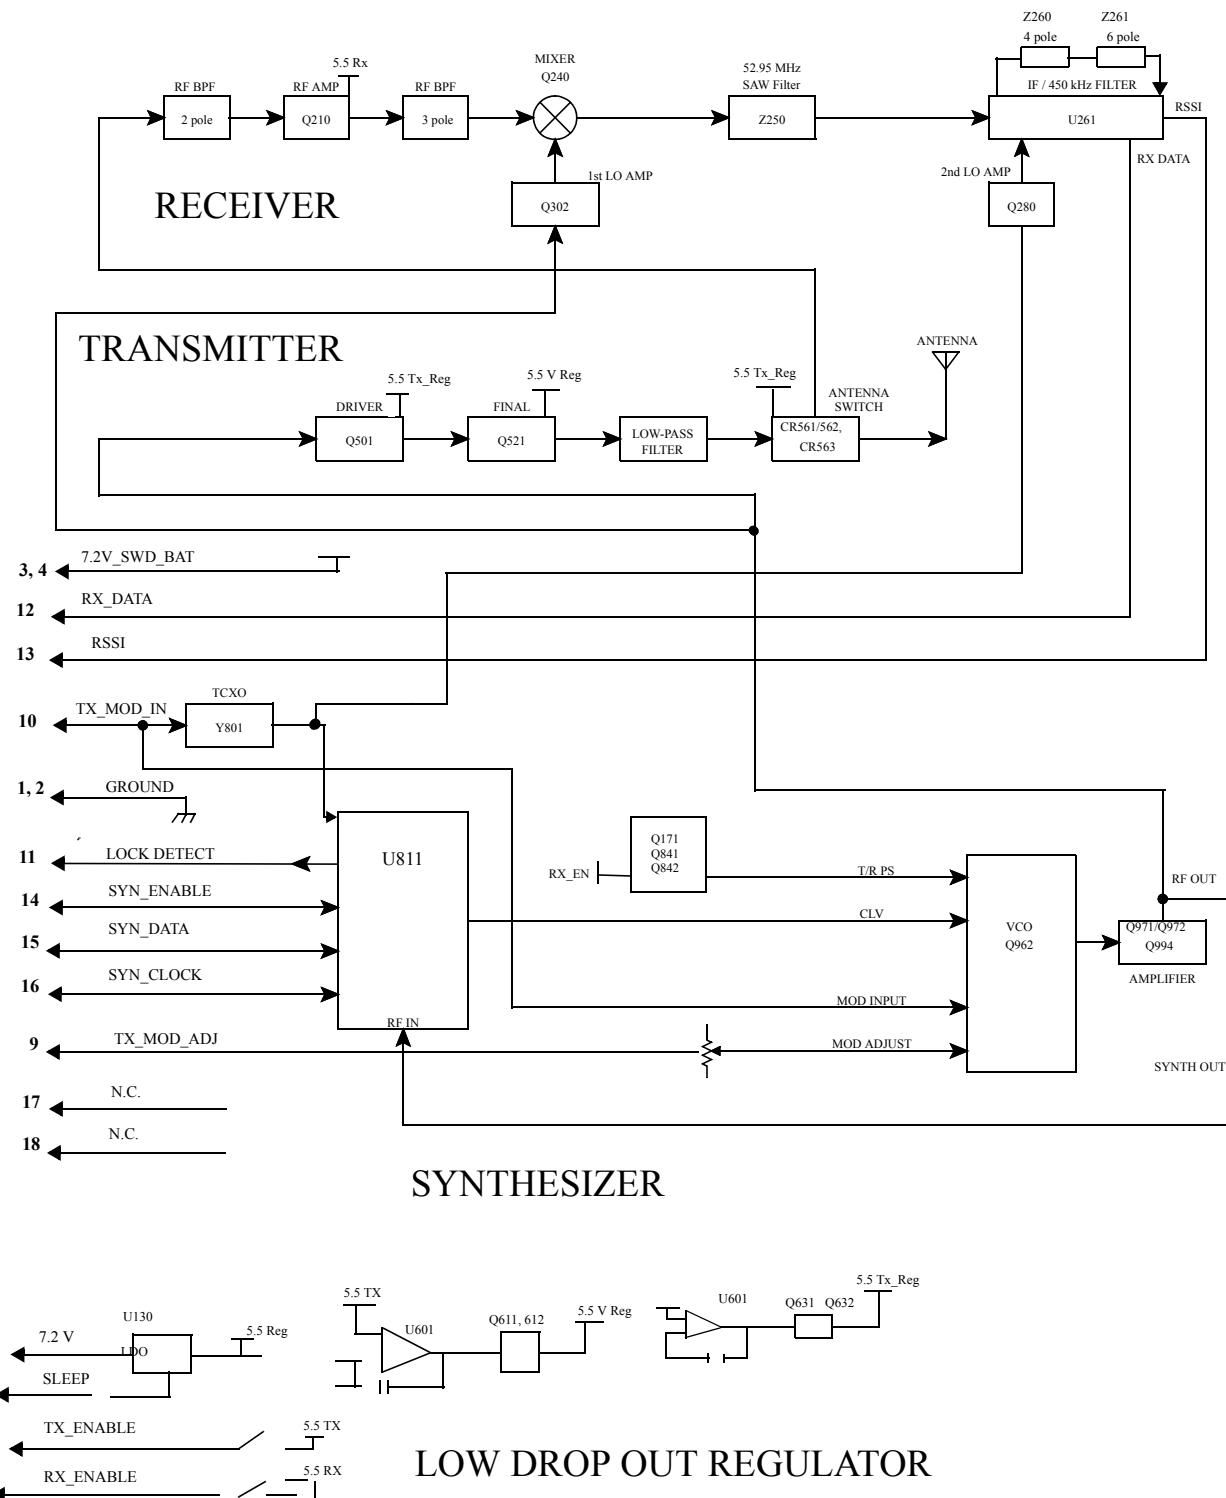
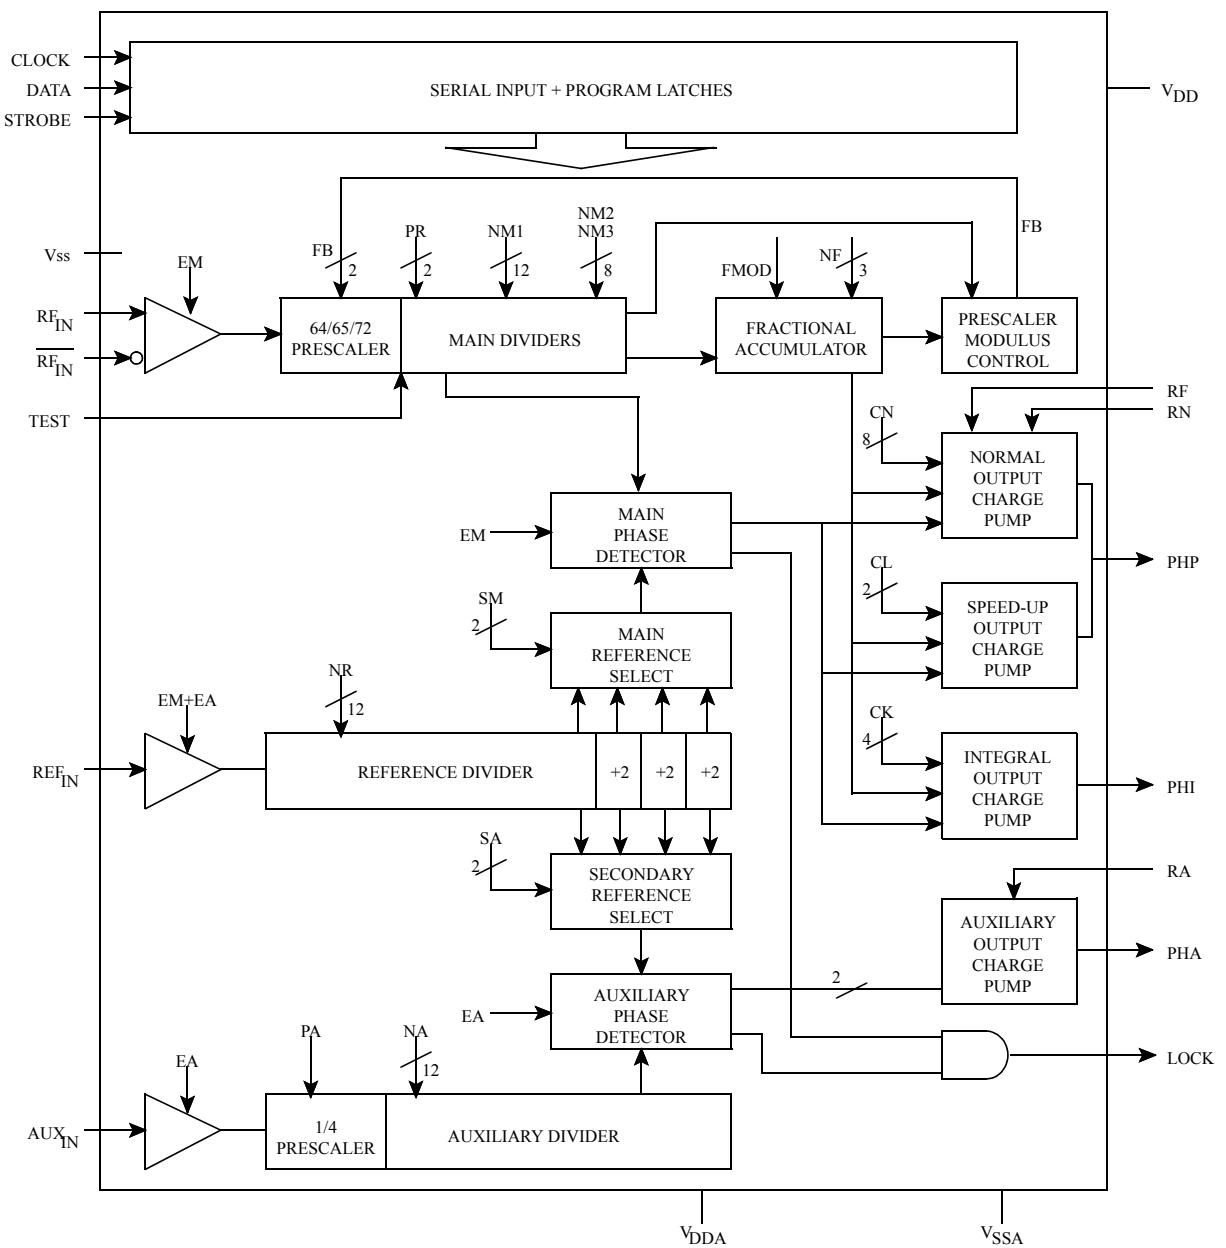

Figure 4-1 DATA TRANSCEIVER BLOCK DIAGRAM
Figure 4-2 U811 SYNTHESIZER BLOCK DIAGRAM
The DM-3473 100mW transceiver consists of a low dropout regulator power supply, frequency synthesizer and VCO (voltage controlled oscillator), 100mW RF power amplifier, and dual down conversion FM receiver. A block diagram of the transceiver is located in Figure 4-1 and shows the four major sections of the unit.
Channels are selected by programming counters in U811. Section 3 of this manual shows how to program the Phillips SA7025A Frequency Synthesizer for the DM-3473. This programming is performed over a 3-wire serial bus formed by pins 14, 15, and 16 of user interface J201. These pins are labeled Synth Enable, Synth Data, and Synth Clock. This programming is supplied by customer hardware and software interface equipment. A block diagram of the synthesizer/VCO is shown in Figure 4-1 along with a block diagram of the Phillips synthesizer IC SA7025A in Figure 4-2.
The receiver on the 3473 is a FM dual down conversion superheterodyne topology. Dual down conversion means that the receiver has two intermediate frequencies (IF) of 86.85 MHz and 450 kHz. The first local oscillator (LO) is high side injected 86.85 MHz above the desired receive frequency. This is the function of the VCO in receive mode. The design also incorporates two discrete bandpass filters to reject image and other wideband frequencies. A surface acoustic wave (SAW) filter is implemented in the first IF to enhance receiver selectivity. 10 poles of filtering are used in the second IF to further improve selectivity and to set the IF bandwidth of either 12.5 kHz or 25 kHz. Figure 4-1 shows the receiver block diagram for the 3473 radio module.